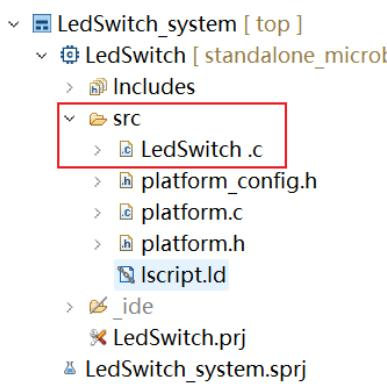

Figure 4.
- As shown in the Figure 4, in **Project Explorer**, expand the **LedSwitch → src** folder.